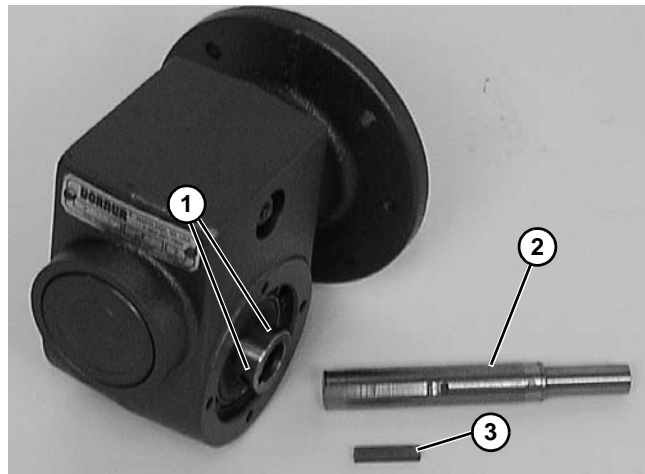

Figure 31
1. Loosen six (6) set screws (Figure 31, item 1). Remove drive shaft (Figure 31, item 2) and key (Figure 31, item 3).
3. Replace the original shaft components into new gear reducer (Figure 31).